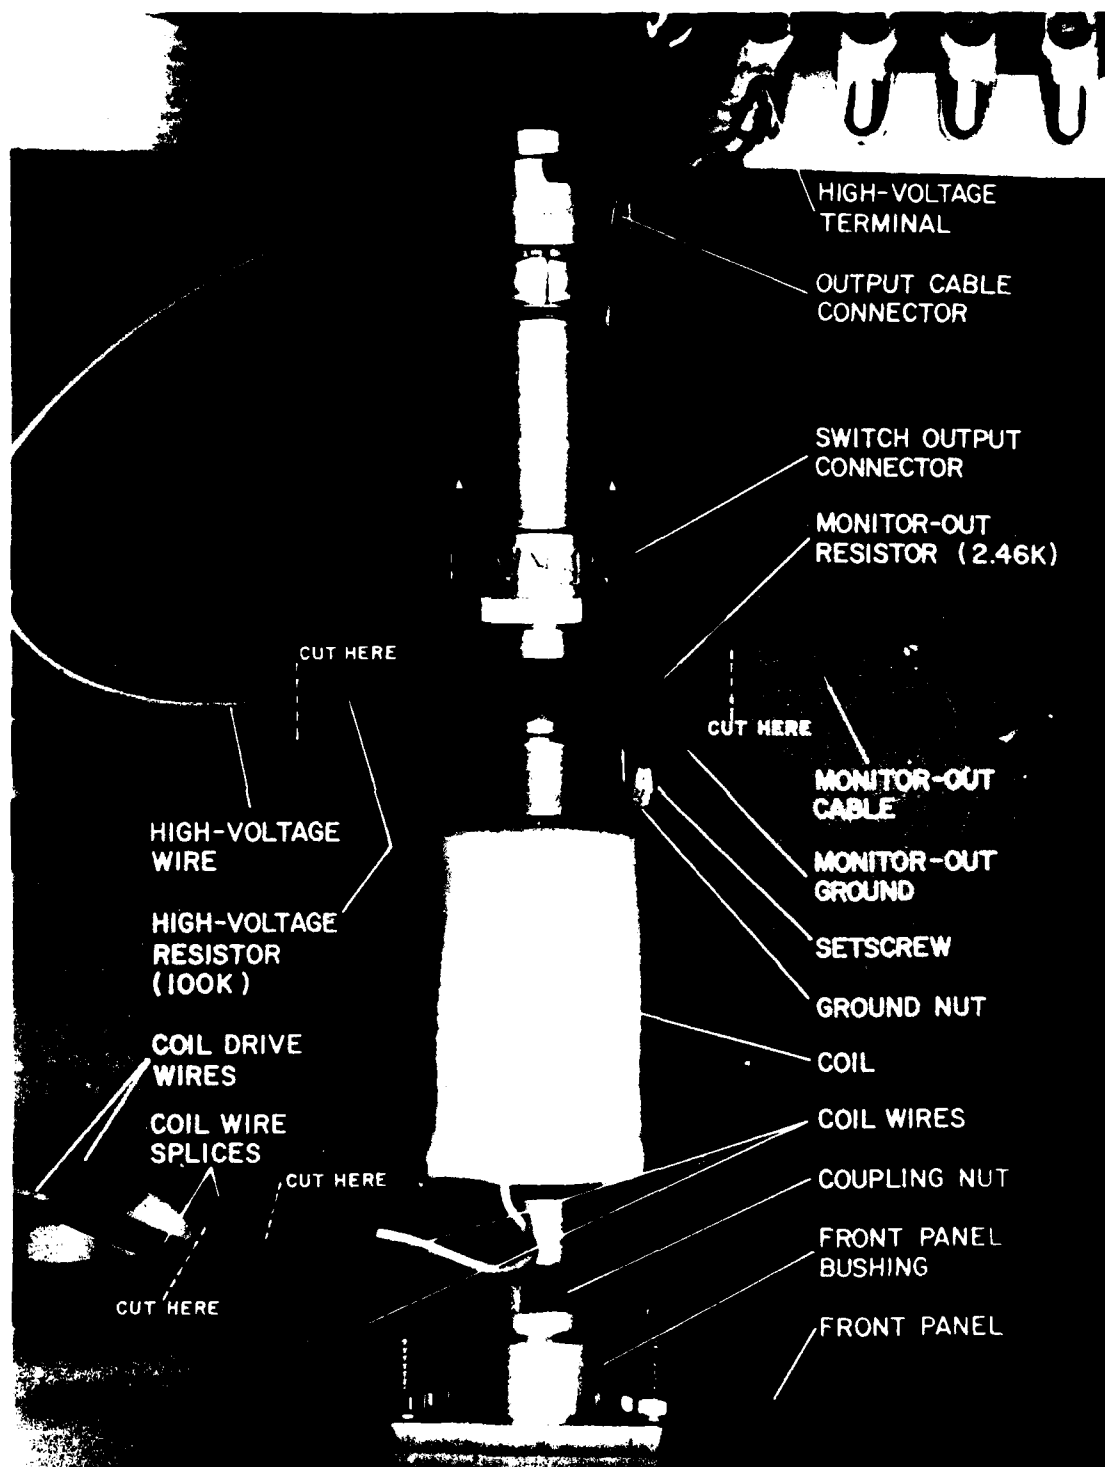

FIGURE 6. HIGH-VOLTAGE SWITCH ASSEMBLY (TOP VIEW)
10. Carefully connect the other end of the jumper cable to the high-voltage terminal. (Refer to Figure 6 for steps 10 through 19.)
1. Holding the output cable connector downwards for clearance, slide the end of the switch assembly without the resistors into the front panel bushing. (Refer to Figure 6 for steps 1 through 18.)
18. Dress all leads, as shown in Figure 6.